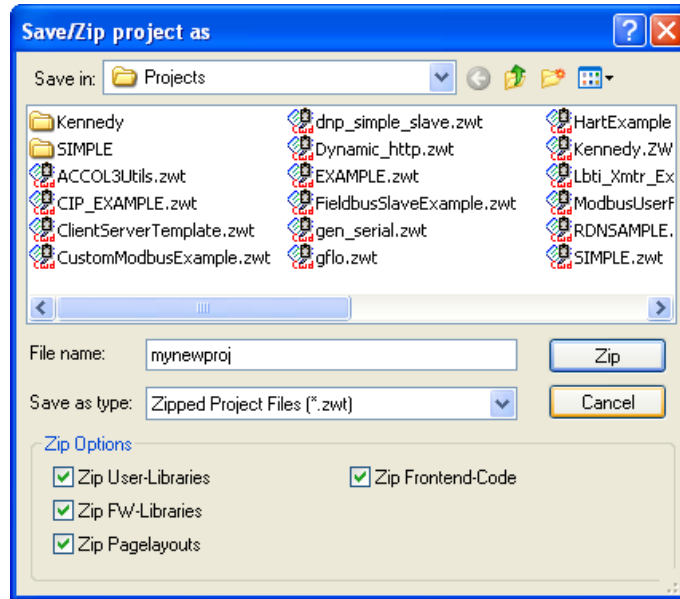

Figure 4-4. Saving a Backup of Your Project
2. In the “Save/Zip project as” dialog box, specify a project name in the **File name** field. In *Figure 4-4* we chose the name **mynewproj**.